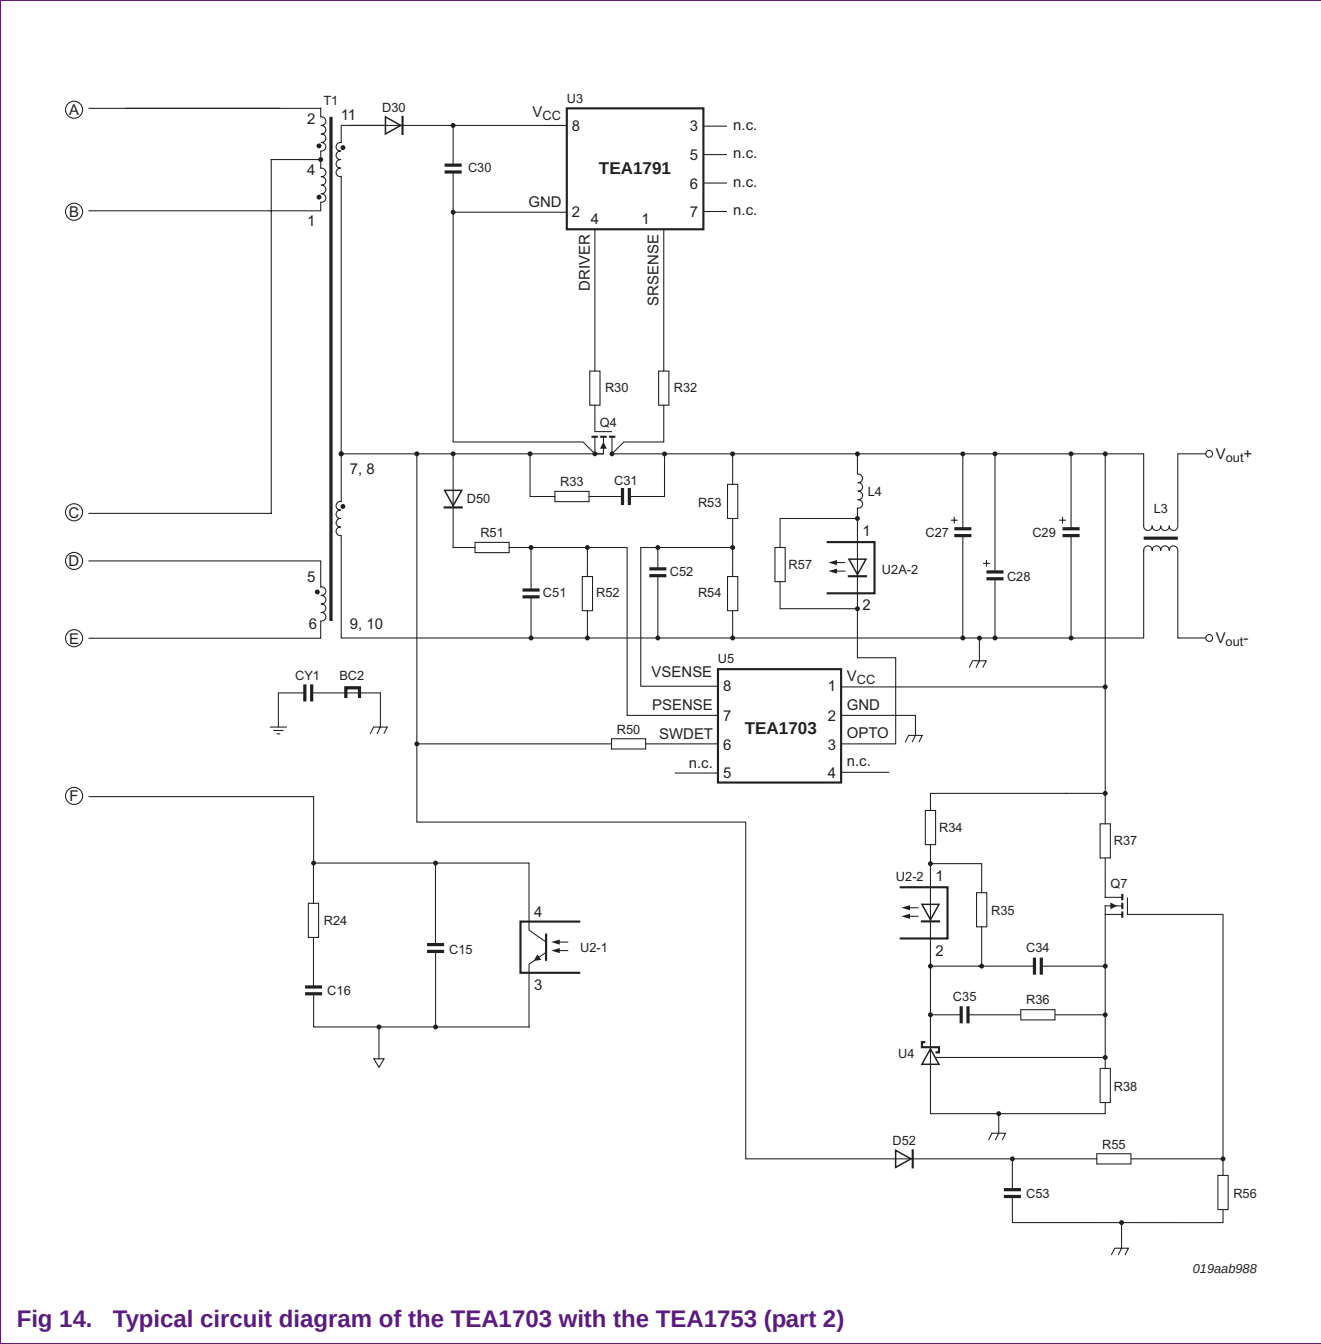
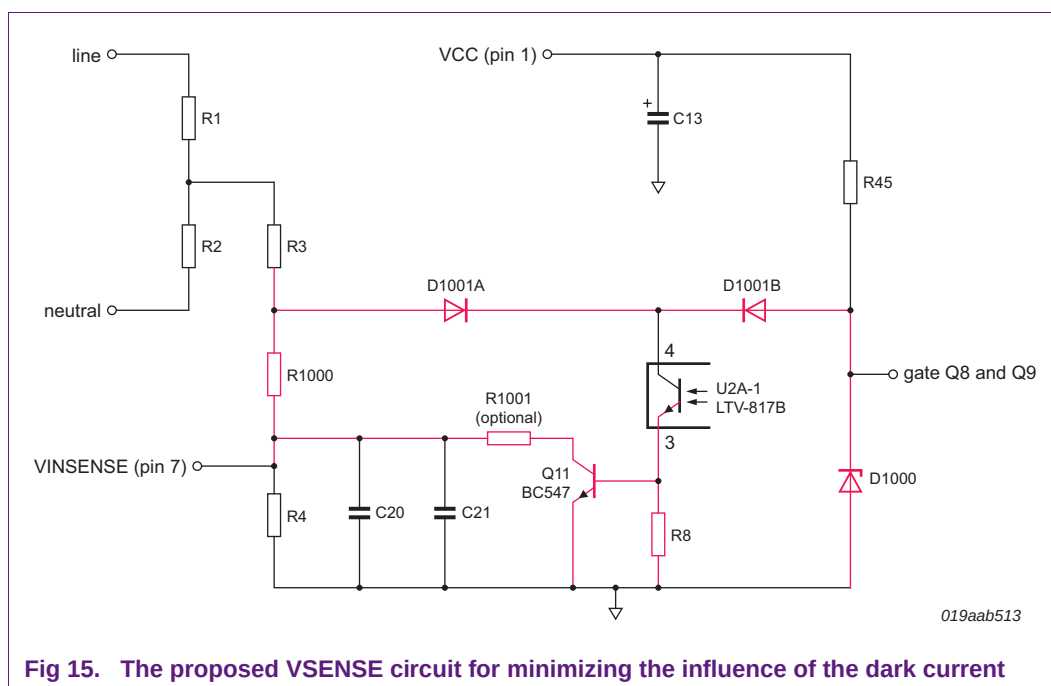

Fig 14. Typical circuit diagram of the TEA1703 with the TEA1753 (part 2)
Fig 15. The proposed VSENSE circuit for minimizing the influence of the dark current
See Figure 13 on page 22 and Figure 14 on page 23 for a detailed overview of the typical application.
Figure 13 and Figure 14 show a typical application of the TEA1753 low cost SMPS controller and the TEA1703 standby controller. During standby operation, optocoupler U2A forces VINSENSE (pin 7 of the TEA1753) low. The SMPS stops switching when the voltage on VINSENSE drops below 0.35 V (DC).
To reduce standby power consumption, the TL431 reference (U4 in Figure 13 and Figure 14) and the resistor divider R37 and R38 are switched off in standby by means of Q7. This reduces the standby power with 5 mW to 10 mW. The values of R55, R56 and C53 are important in relation with components R51, R52 and C51, this relationship is explained in more detail in Section 8.7.1. Resistors R55 and R56 reduce the maximum gate voltage and C53 creates a switch off delay.
The standby information for the SMPS is obtained via optocoupler U2A. The collector of the optocoupler is not compensated for dark current. The brownout voltage can be influenced if there is no compensation for dark current. Figure 15 shows an alternative circuit diagram that compensates dark currents up to 10 μ A. The red colored components in Figure 15 have to be added and components R42 and R43 can be removed in Figure 13 and Figure 14. Diode D1001A and D1001B are available in one package.
The no load standby power at 230 V (AC) of the SMPS shown in Figure 13 and Figure 14 is 32 mW. In standby, the output voltage varies between 19.5 V and 12.6 V. The standby output power threshold is 190 mW. This corresponds to an output current of approximately 10 mA. The worst-case power-up time from standby to maximum output current is 600 ms (with C13 = 47 μ F).
Using the component values of Figure 13 and Figure 14, the power level to enter standby is 190 mW and the minimum output voltage level at which the optocoupler is disabled 12.6 V. These levels can be adjusted separately. Preferably, adjusted the power level first.
Using the circuit diagram (Figure 13 and Figure 14) a capacitance value for C51 between the 27 nF and 100 nF is allowed, assuming that C51 is always equal to or slightly larger than C53.